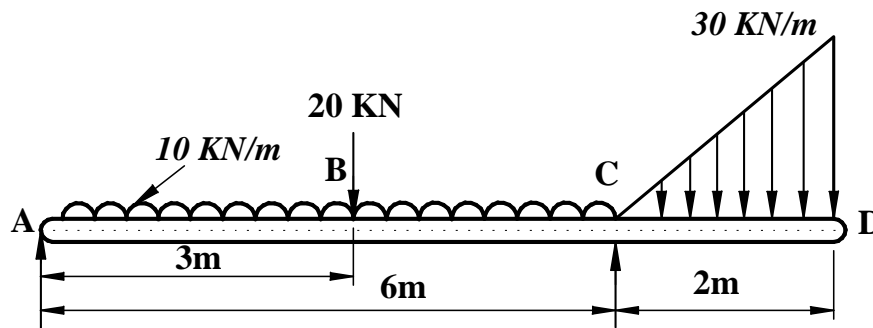

fig 3b
- b) The shear force diagram for a beam, simply supported at its ends is shown in fig 3b. Determine the reactions and draw shear force and bending moment diagrams. Also find the maximum bending moment and its location. **14**